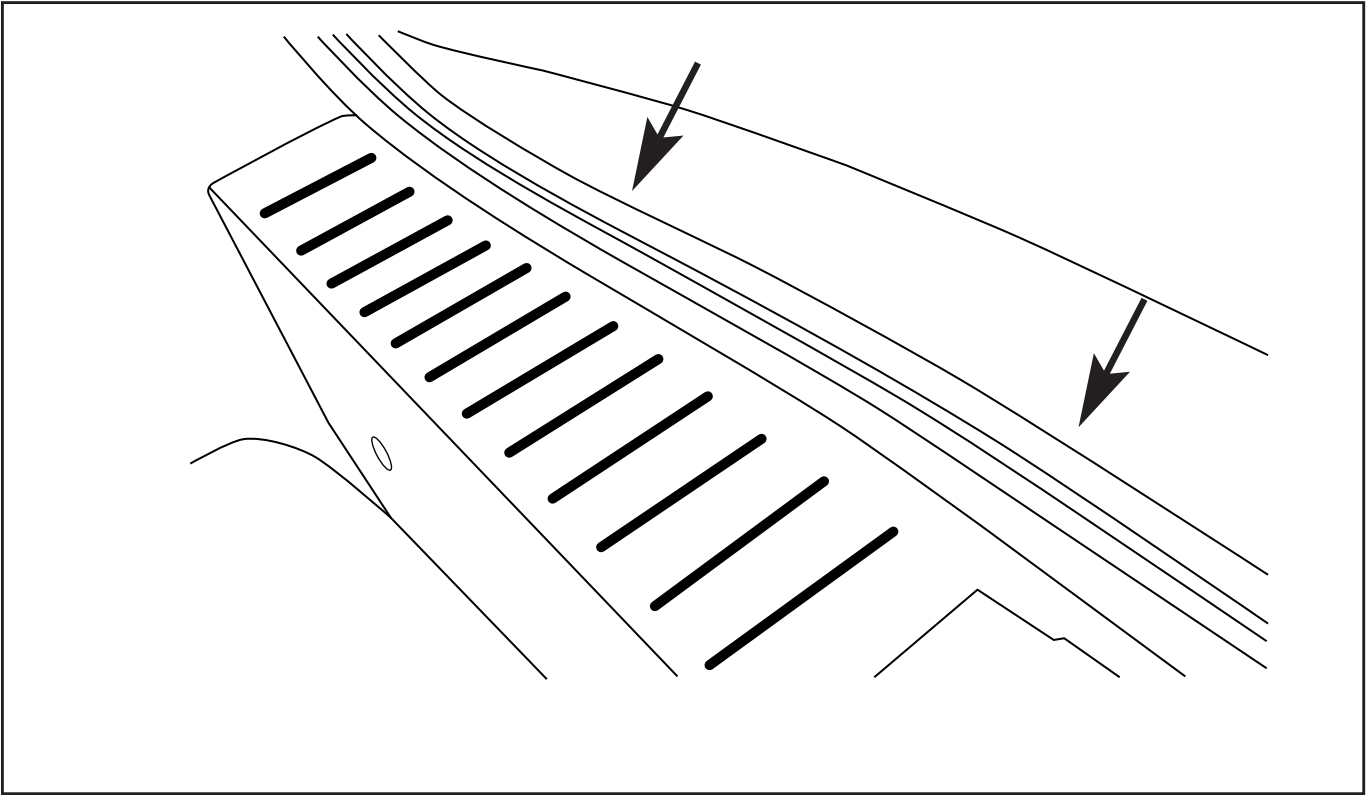

Fig. 14
15. Re-seat weather stripping as needed (Fig. 14).